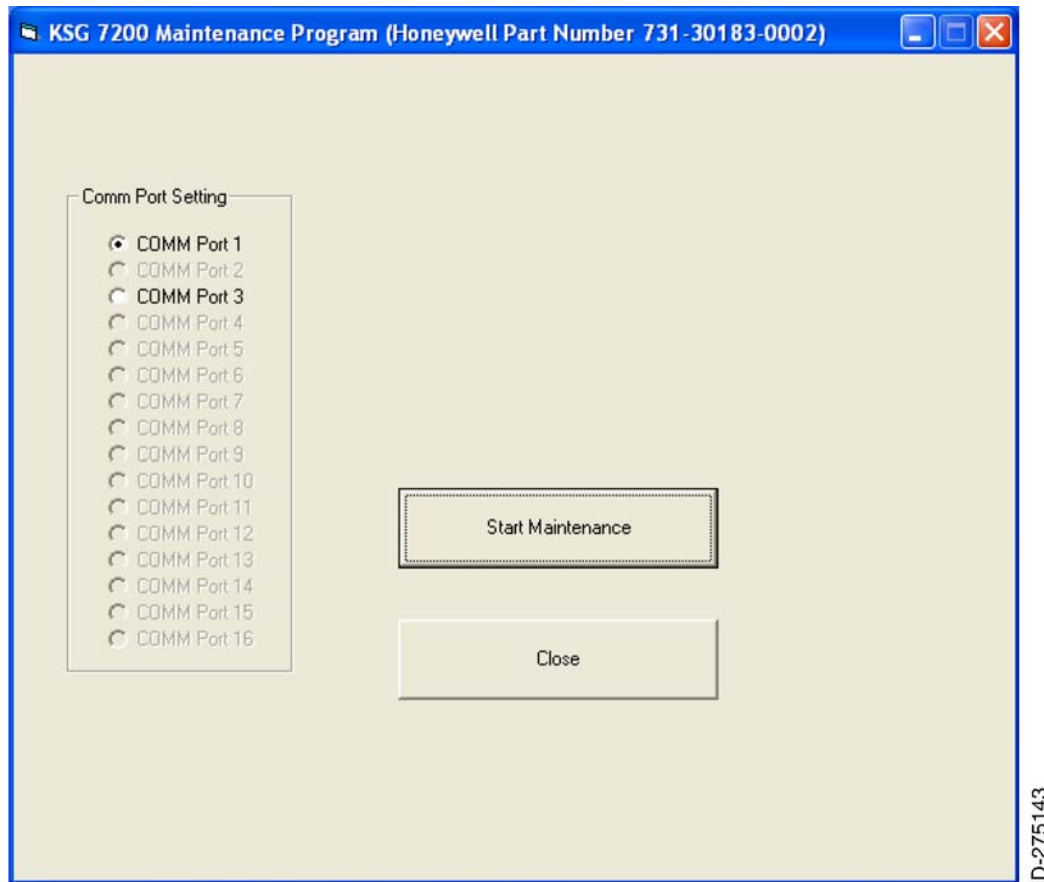

Figure 1. (Sheet 1 of 1) KSG 7200 Maintenance Program (Honeywell PN 731-30183-0002) Window
- (1) Start the KSG 7200 field maintenance program on the laptop computer. Verify that KSG 7200 maintenance program, Honeywell PN 731-30183-0002, is displayed at the top of the window. Refer to Figure 1.